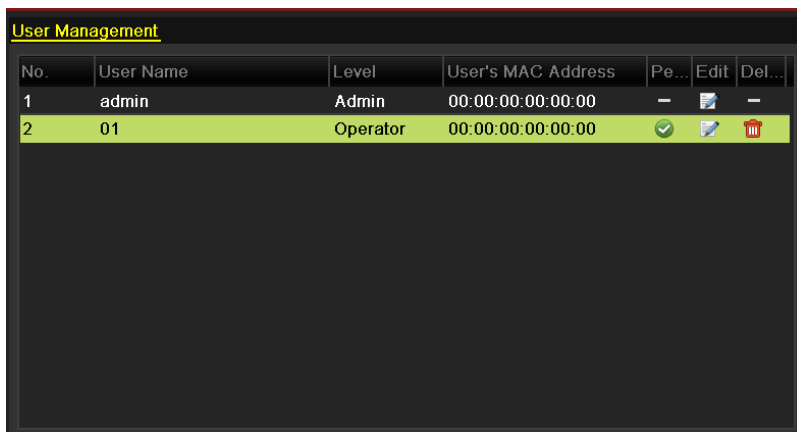

Figure 16-9 User List
Step 2 Select the user to be deleted from the list, as shown in Figure 16-9.
Step 2 Select the user to be edited from the list, as shown in Figure 16-9.